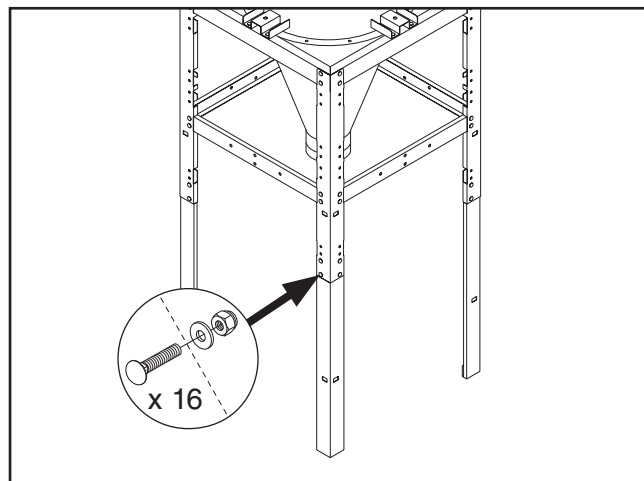

Figure 19. Attaching lower legs to the initial stand assembly.
18. Using forklift, raise assembly up and attach lower stand legs to upper stand legs, as shown in **Figure 19**, with (16) $\frac{5}{16}$ "-18 x $\frac{3}{4}$ " carriage bolts, $\frac{5}{16}$ " flat washers, and $\frac{5}{16}$ "-18 hex nuts.